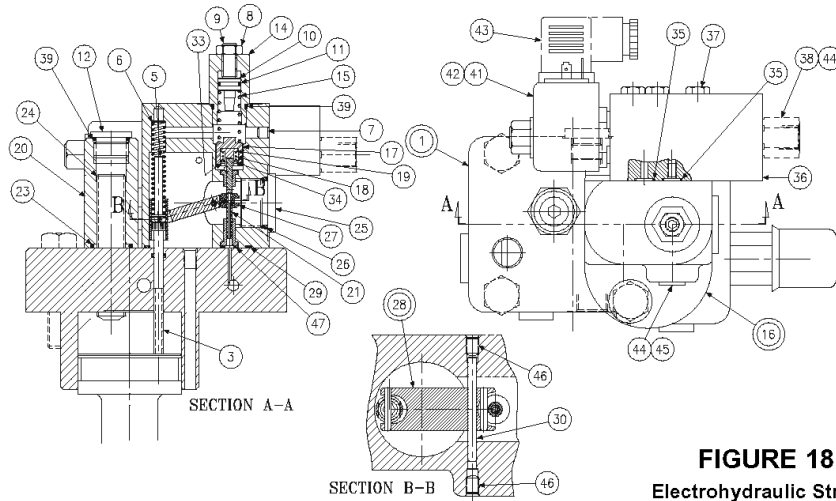
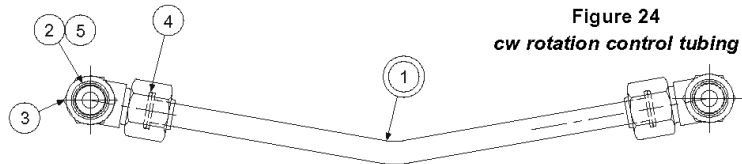

FIGURE 18
Figure 24
PARTS LIST FOR FIGURE 18
1. See Figure 18. Remove 3 screws (37) holding block (36) to body (16).
2. Remove 2 screws holding body (16) to cap assembly (1).
3. Remove all parts from body (16) except pin (30) and arm assembly (28). It is not necessary to remove these parts unless broken or worn. Examine parts for wear or damage.
4. Remove screw (3). Examine head for excessive wear, and body for smooth sealing surface with O-ring.
2. Install spool (6) into bore as shown. Install spring (11) over end of spool.
3. Install O-ring (8) on spring retainer (7). Install retainer (7), screw (13), and nut (14) in plug (4).
4. Install O-rings (10) and (15) on plug (4). Install plugs (4) and (12) in body (1). Install .047", 1,19 mm orifice (19), and .071", 1,98 mm orifice, (20) and plugs (2) and (17). Torque plugs. Install O-ring (21) in cap.
5. Turn screw (13) in until spring retainer (7) contacts spring (11). Turn an additional 1-1/2 turns and lock in position.
8. See Figure 18. Apply thread locking compound on threads of screw (3), lubricate the shank, thread through the cap into the control piston, and torque to 5 lb.*ft., 6.78 N*m.
9. Install minimum stop screw (24) and turn clockwise to stroke pump to full volume. Measure height from control cap to top of screw (3). With control piston at full displacement, dimension must be .74 +/- .03 in., 18,8 +/- 0,76 mm. Back out minimum stop screw (24) till there is no contact with control piston.
10. Press dowel (30) into body (16), through the link (28), to 1/4, 6,35 mm below surface, apply hydraulic sealant to threads of screws (46) and install over dowel (30).
11. Press spool (21) into retainer (19). Caution: do not use excessive force. Place spool/retainer assembly into spool (17) with spring (18) and washer (34). Secure with retaining ring (33).
12. While sleeve (27) is engaged into dowel on link (28), slide above spool assembly into bore of body (16), and through sleeve (27). Spool (21) must move freely and easily at all positions of the link (28).
13. Install proportional valve (41) in block. Torque to 20 ft.*lbs., 27 N.m.
15. Assemble all other components into body (16) per above drawing. Torque the plug (12).
16. While spring retainer is engaging clevis pin (5) under dowel of link (28), slide the other opening of spring retainer over the top of the screw (3). Attach body assembly (16) to cap (1) with two screws and torque to 75 lb.*ft., 102 N.m.
17. Install tubing assembly (Figure 24, 25).
Ref. Figure 18
PARTS LIST FOR FIGURE 24